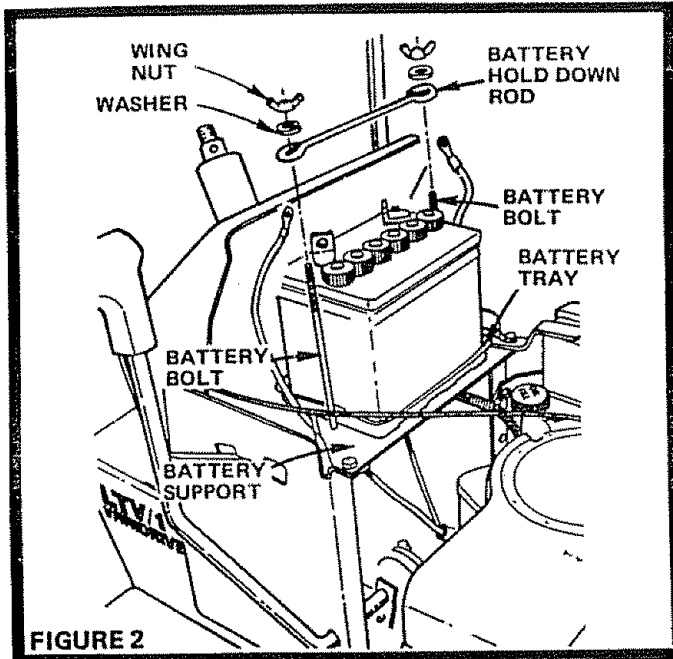

FIGURE 2
- a. Remove tape from plastic Battery Tray. Hook one Battery Bolt into slot in the one side of the Battery Support (Fig. 2).
- c. Fasten Battery to installed Battery Bolt with the Battery Hold Down Rod, Washer and Wing Nut (Fig. 2).